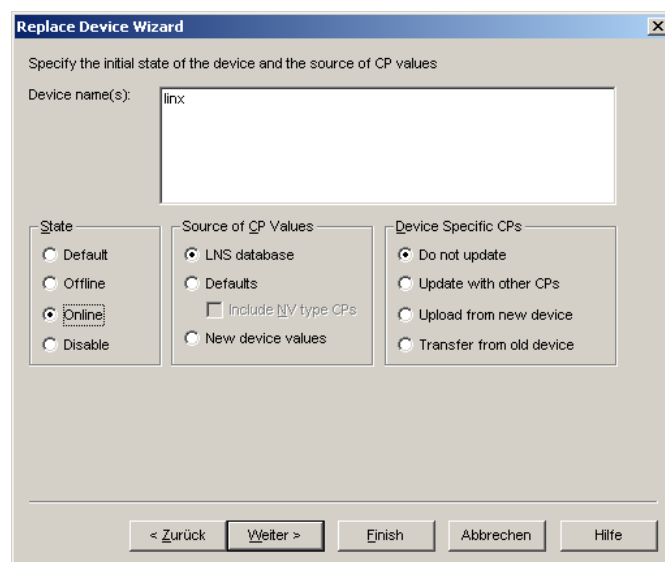

Figure 96: Select online state.
- Then select **Online** as shown in Figure 96 and click **Next**.